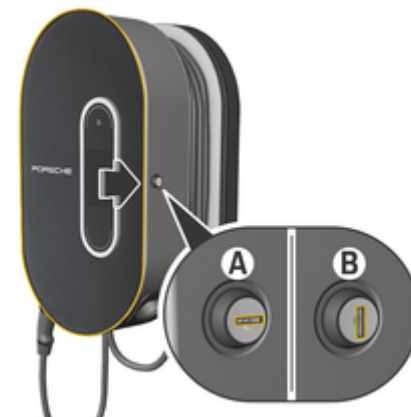

Fig. 14: Charging dock
- ▶ Turn the lock into position **A** (Fig. 14).
- ▶ Press the lock into position **B** (Fig. 14).